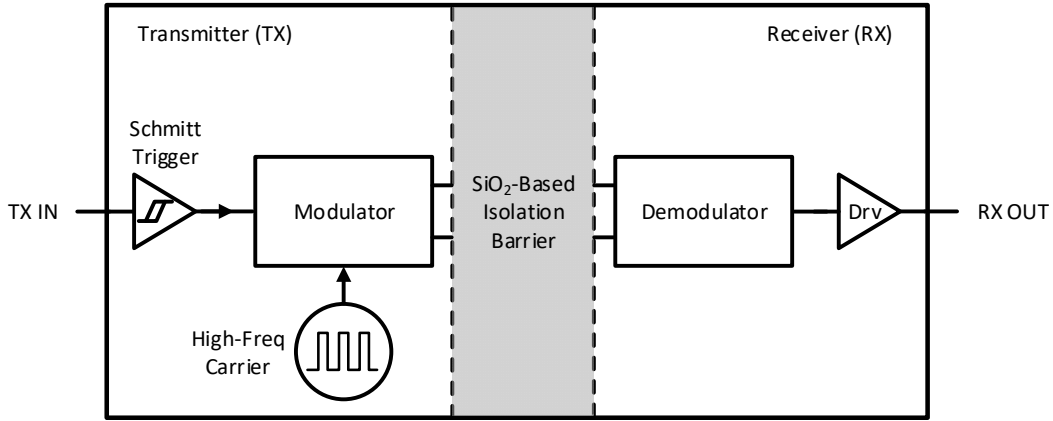
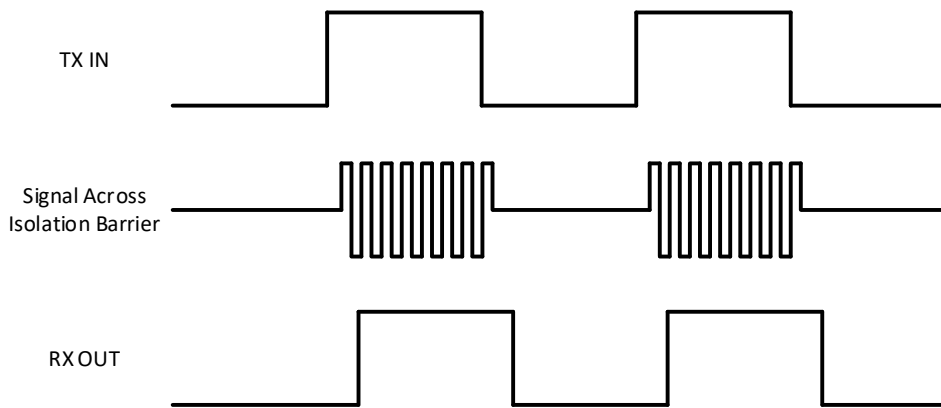

Figure 9-2 Block Diagram of an Isolation Channel
Figure 9-3 Conceptual Operation Waveforms of OOK Modulation Scheme
The CA-IS1311 devices utilize a simple on-off keying (OOK) modulation scheme to transmit the digital bitstream across the SiO₂-based isolation barrier which supports up to 5-kV_{RMS} galvanic isolation between high- and low-voltage domain. The block diagram of an isolation channel is shown in Figure 9-2. As shown in Figure 9-3, the transmitter (TX) modulates the digital bitstream with